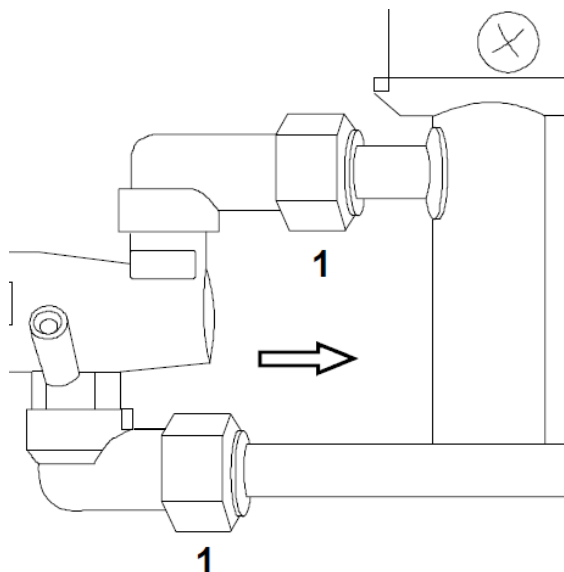

FIG.19 (Substitution gas tap)
- Disconnect the tap from its respective gas pipe-fittings (FIG.19-Ref.1).